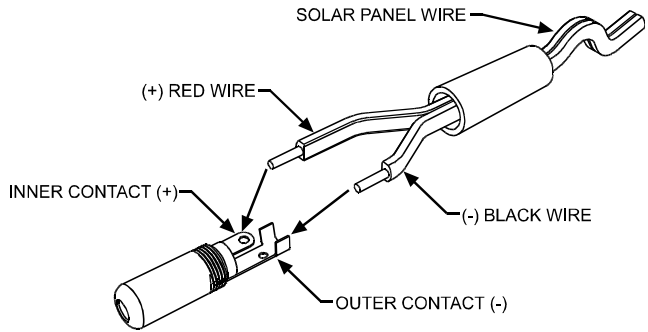

Figure 3 - Typical DC Coaxial Connector Connection
2. Solder the solar panel's wire to the "DC Coaxial Connector" as shown in Figure 3.